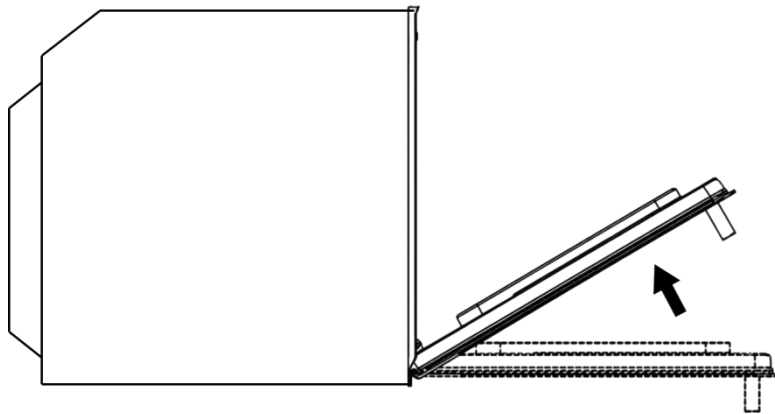

Figure 2
3. Move the oven door to the position shown in Figure 2.
①